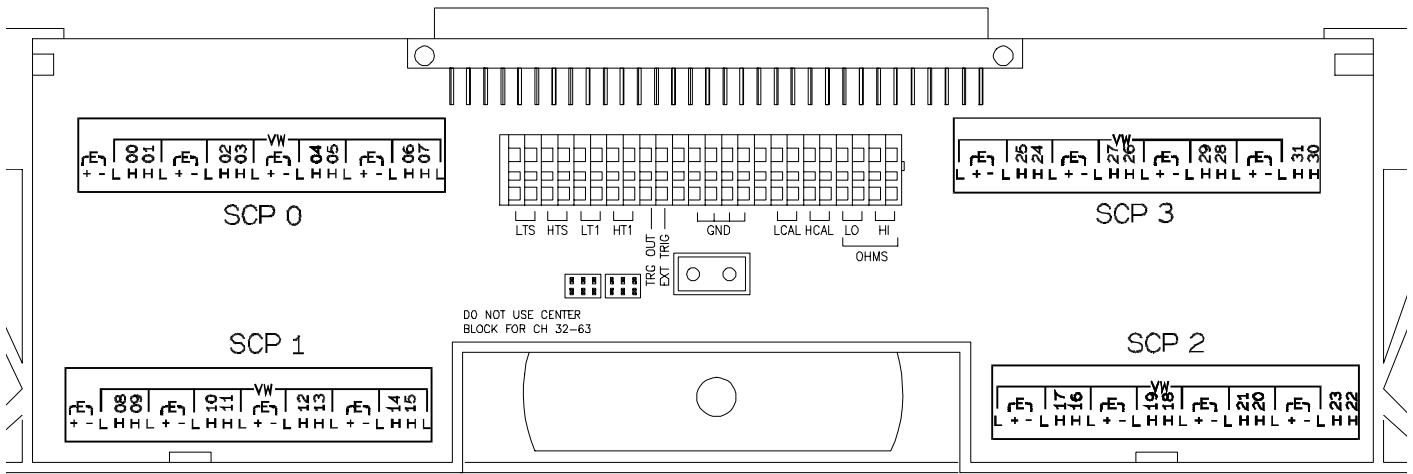

Figure 6 HP E1506/07 B-size Terminal Module Connections (Ch 00-31)
- For HP E1313 Terminal Modules, use stickers for HP E1506/07 SCPs. The connections are shown in Figure 6 and 7.